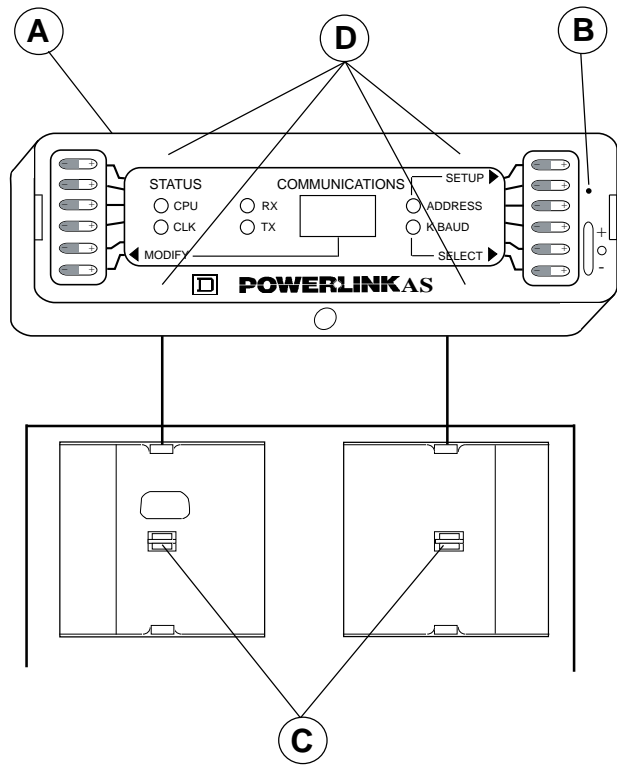

Figure 1
2. Install control module onto power interface module (see figure 1).